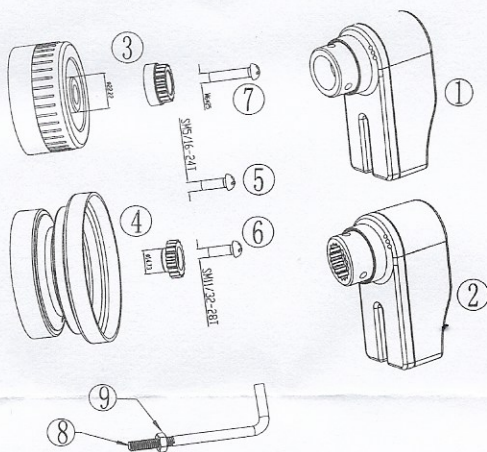

Fig.6
3. Synchronizer Installation measurement explanation(See Fig.6 and Table 1):